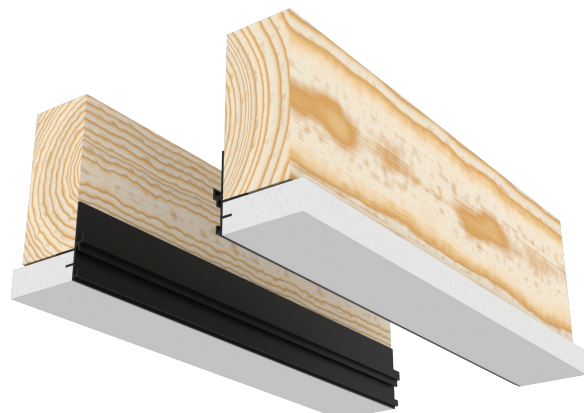

Figure 13 (Step 4A)
- A. Install drywall below framing, butted up against the lower section of the subframe – see Figure 13.